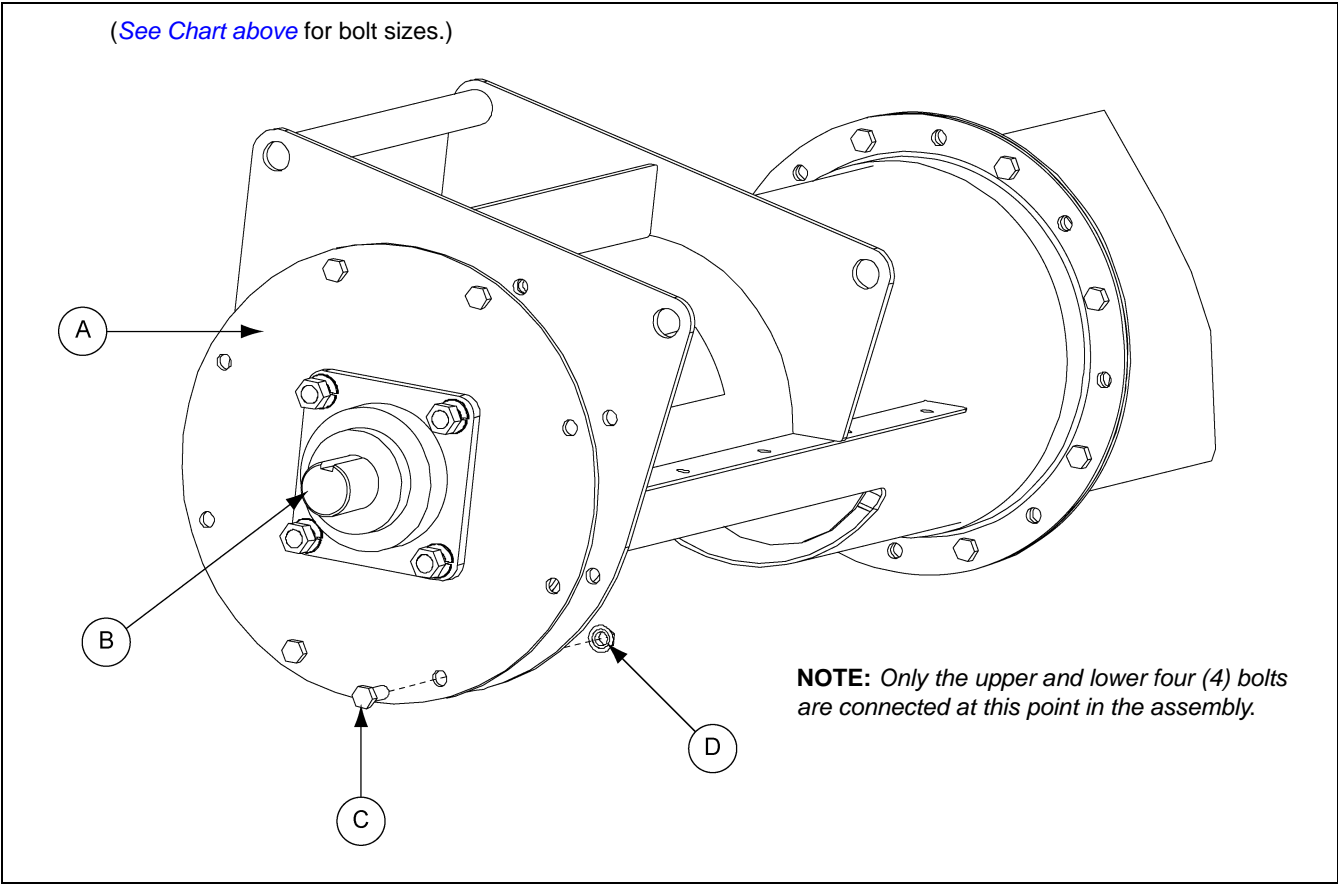

Figure 4C
1. Align bearing with drive shaft (B) and slip shaft through bearing.
2. Rotate plate until bolt holes in tube flange and plate align. Secure with appropriate bolts (C) and serrated flange nuts (D). *(See Chart below.)*
3. Only secure with UPPER and LOWER four (4) bolts. *(See Figure 4C.)* The other four (4) bolts will be installed later with the belt guard mounting brackets. *(See Chart below.)*